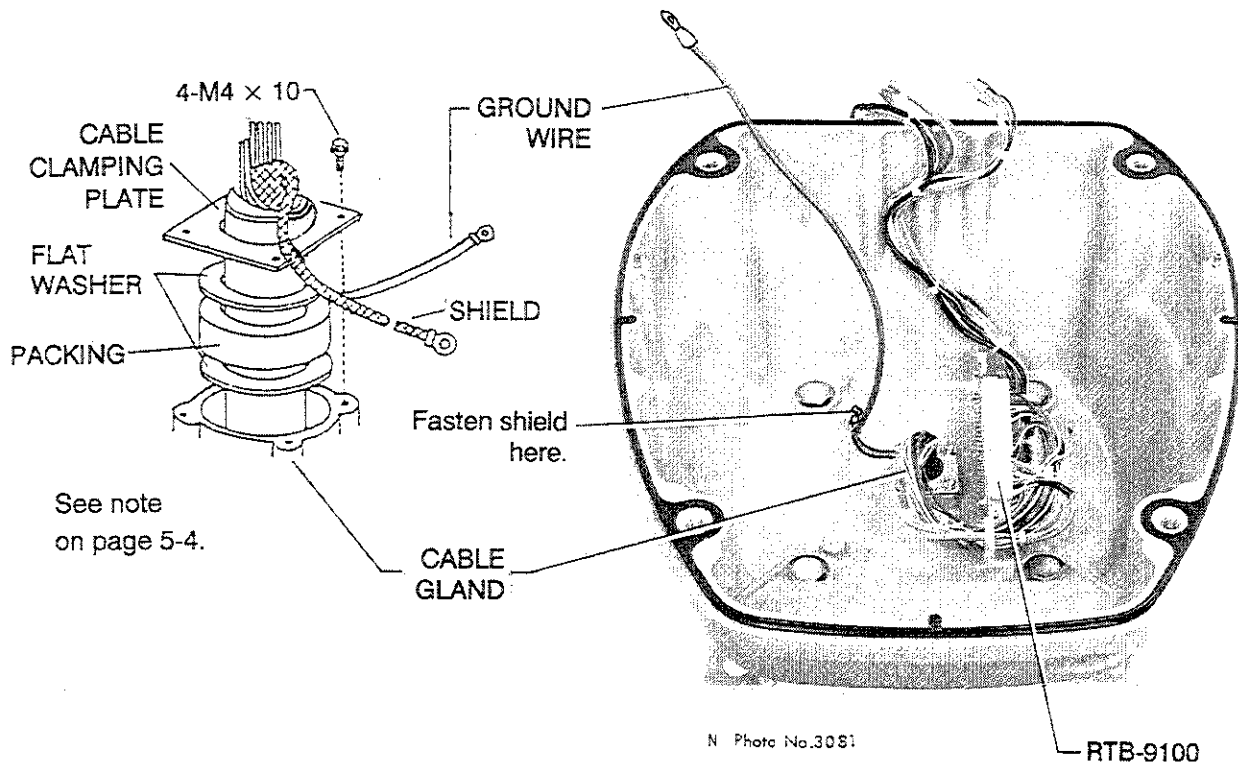

Figure 5-3 Passing the signal cable through the scanner housing
- 5) Connect the lead wires to RTB-9100 in the scanner housing by referring to the interconnection diagram on page S-1. Fasten the shield (inner and outer combined) at the bottom of the scanner housing as shown in Figure 5-3.